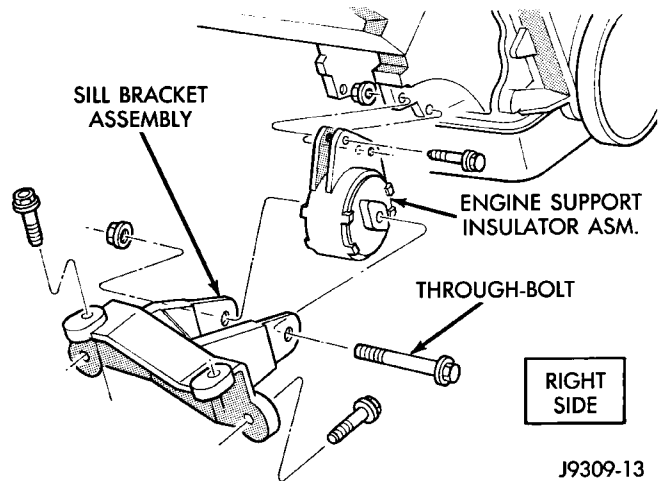
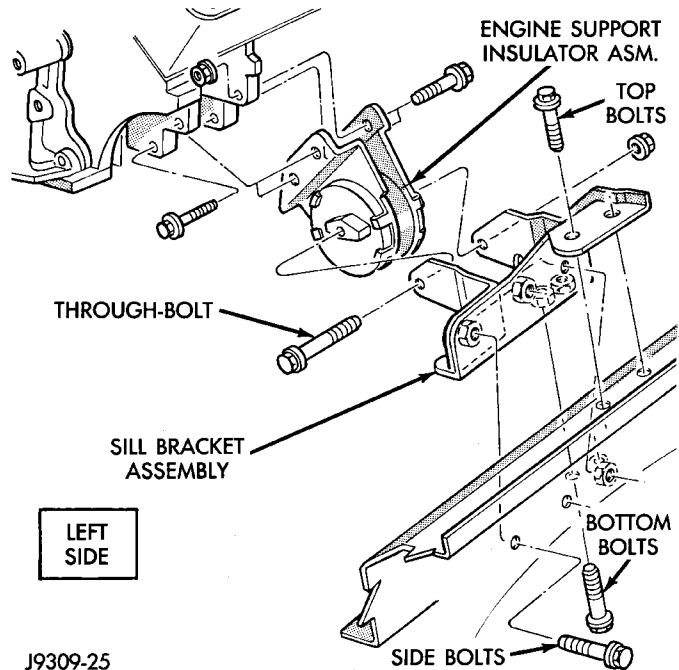

Fig. 14 Front Engine Mount—Right Side
Fig. 15 Front Engine Mount—Left Side
- (3) Install engine lifting fixture.
- (4) Raise vehicle on hoist.
- (5) Remove the engine support insulator thru-bolts and nuts (Fig. 14) (Fig. 15).
- (6) Raise engine SLIGHTLY. Remove the engine support insulator bolts. Remove the engine support insulator assembly.
(a) **RIGHT SIDE**—Install the sill bracket assembly onto the sill assembly (Fig. 14). Install and tighten the bolts to 65 N·m (48 ft. lbs.) torque.
(b) **LEFT SIDE**—Install the sill bracket assembly onto the sill assembly (Fig. 15). Install and tighten the 2 top bolts to 65 N·m (48 ft. lbs.) torque. Install and tighten the 2 side bolts to 95 N·m (70 ft. lbs.) torque. Install and tighten the 2 bottom bolts to 121 N·m (89 ft. lbs.) torque.
(2) With the engine raised **SLIGHTLY**, position engine support insulator assembly onto the engine block (Fig. 14) (Fig. 15). Install bolts and tighten to 88 N·m (65 ft. lbs.) torque.
(3) Lower engine with lifting fixture while aligning engine support insulator assembly into sill bracket assembly.
(4) Install the thru-bolt and nut. Tighten the **RIGHT SIDE** nut to 81 N·m (60 ft. lbs.) torque. Tighten the **LEFT SIDE** nut to 81 N·m (60 ft. lbs.) torque.
(5) Lower the vehicle.
(6) Remove lifting fixture.